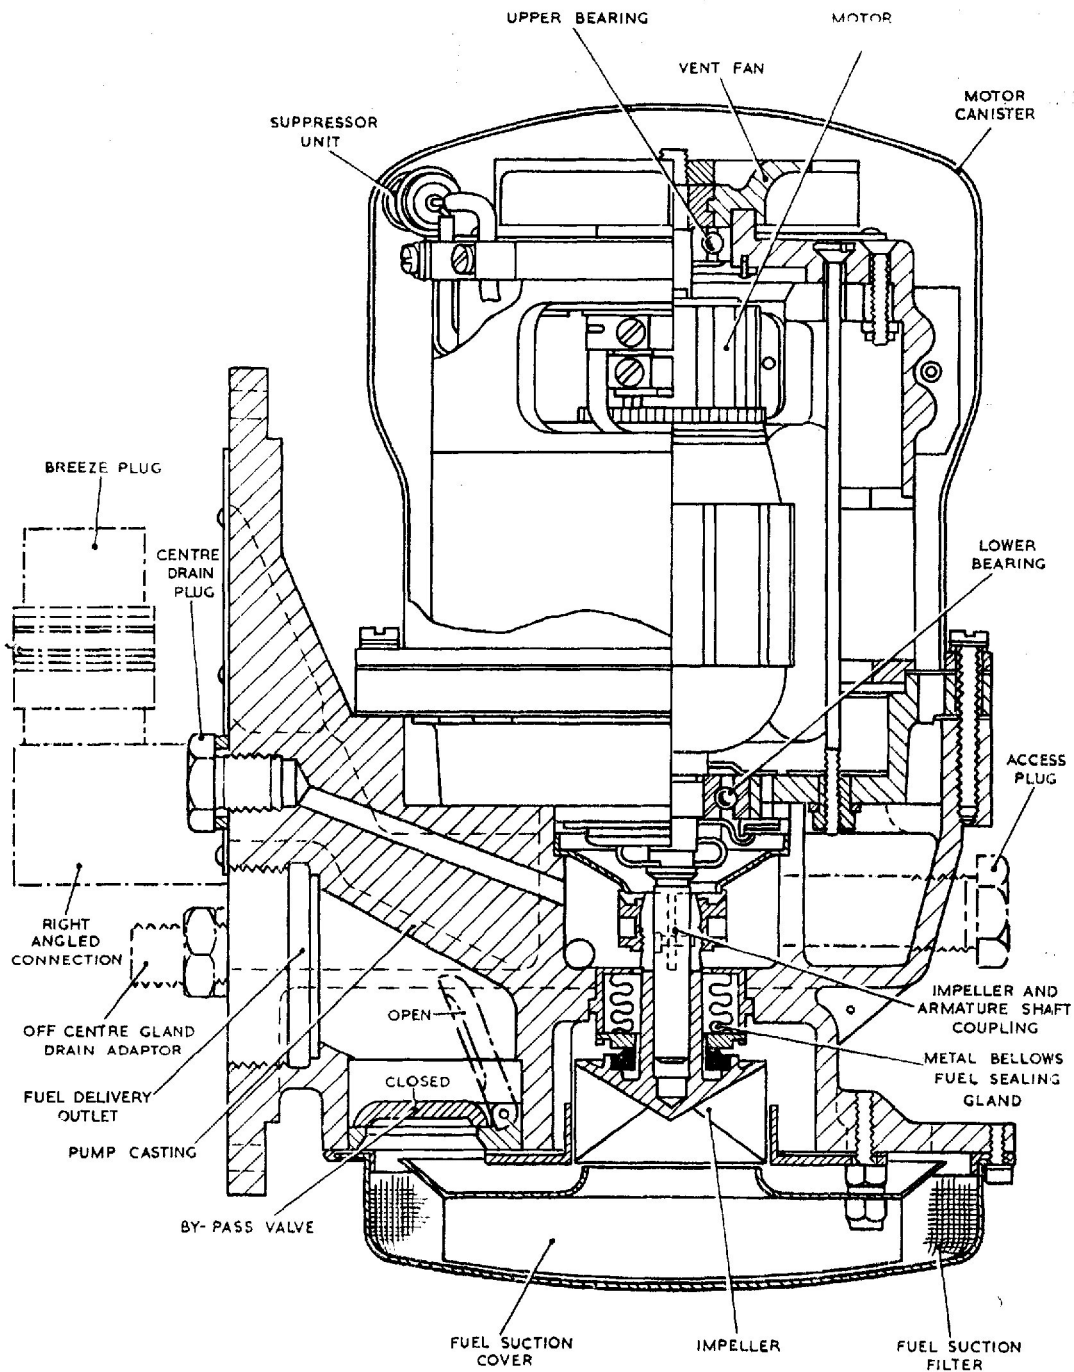
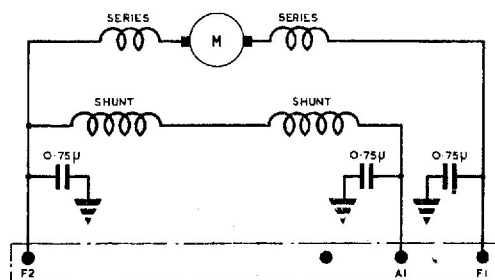

Fig. 2. Sectional view of side fitting pump
Fig. 3. Circuit diagram
▲ 3. The pumps described (side fitting and base fitting) in this chapter are typical of this range. The main differences from these pumps and specific types will be found in the appropriate appendix to this chapter. A sectional view of a side fitting pump is shown in (fig. 2), and that of a base fitting type in (fig. 3). Both pumps are basically similar and the following description of the side fitting pump covers the common features in both types. The essential differences between the side fitting pump and the base fitting pump are mentioned in paragraph 17. The pump ▲ consists mainly of a driving motor, supported in the upper end of the pump body. A canister, which covers the motor, is secured to the pump body flange by twelve B.S.F., ch.hd. screws, and associated washers. Fourteen  $\frac{3}{32}$  in. clearance holes, equally spaced around the pump body flange, are provided, to permit the complete pump unit to be bolted to the interior side of the aircraft fuel tank. Two  $\frac{1}{4}$  in. B.S.F., diametrically opposite, tapped holes, are also provided in the pump flange, to assist in breaking the joint, when it is necessary to remove the pump from the tank.
8. A suppressor unit comprising three 0.75 micro-farad capacitors, is included in the motor circuit, to reduce, or eliminate radio noise interference (fig. 3).
- ▲ 17. The essential differences of this type of pump from the side fitting pump can be seen in the sectional view (*fig. 3*). An additional feature in this pump is the incorporation of passages cored out in the pump body for draining away fuel leakage, and also to provide ventilation to and from the motor through an air strainer located in the side of the pump body. One  $\frac{1}{4}$  in. drain outlet tapped  $\frac{1}{2}$  in. deep is located in the side of the pump base, the other  $\frac{3}{4}$  in. drain outlet being in the centre of the pump base. The fuel delivery outlet and a base holding the Breeze plug are also located in the base. ▲